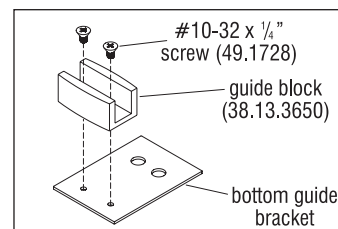

Figure 2 - Door Guide Block Attachment Detail
7. For both door posts, install the guide block on the bottom guide bracket in the correct position using two #10-32 x $\frac{1}{4}$ " screws (49.1728) (Figures 2 & 4).